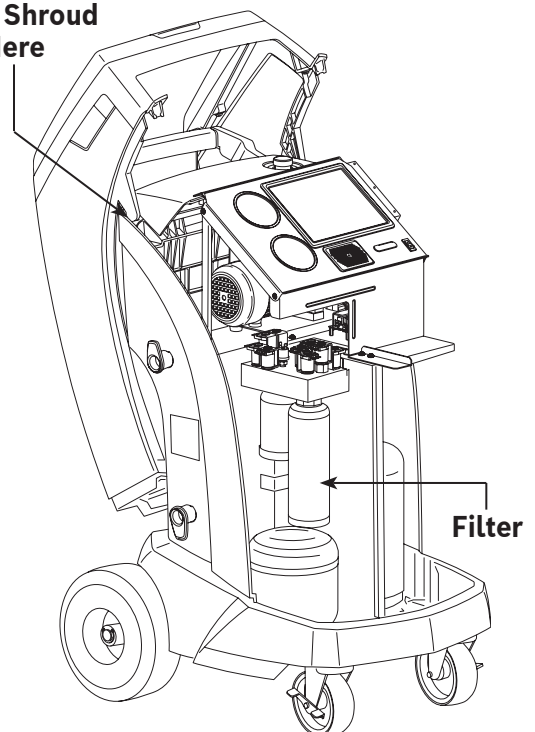

Figure 7
3. Hang the shroud on the back of the machine as shown in Figure 7.
6. Install the new filter by threading it clockwise into place. Verify the filter is positioned correctly as shown in Figure 7. Tighten the filter to 20 Nm.